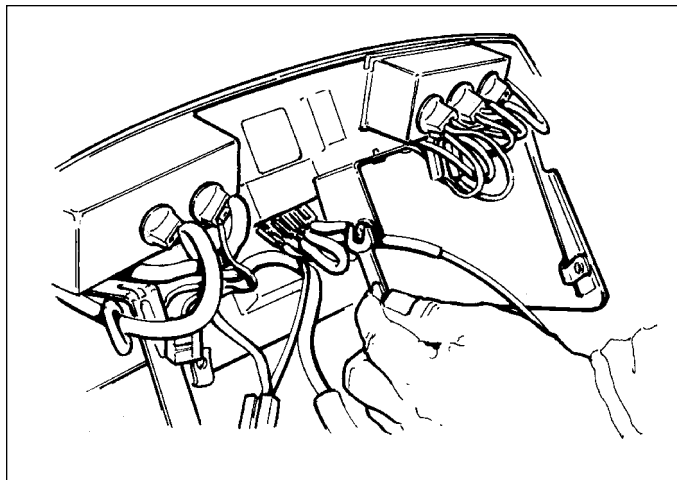

**Figure D-13. Wire Connection
13. Locate the two green/black wires that connect the upper wire harness to the switch located at the base of the brake pedal. Disconnect the two wire connector (A, Figure D-13) located under the dash.